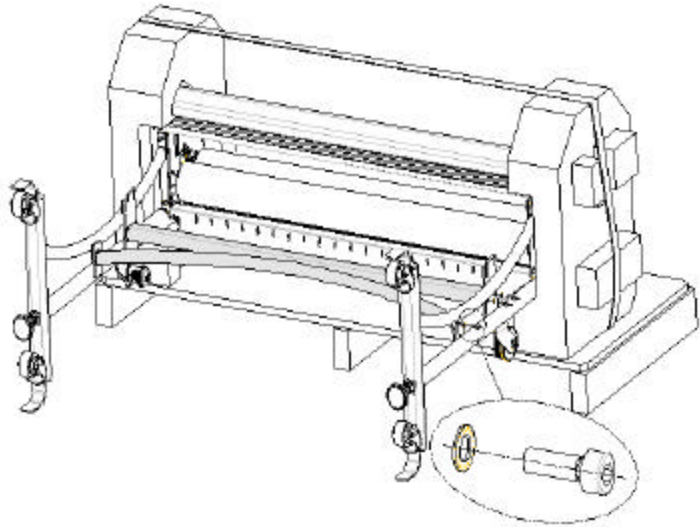

Figure 3.
- Now mount the middle support section between the left-hand and right-hand stand legs, as shown in Figure 3.